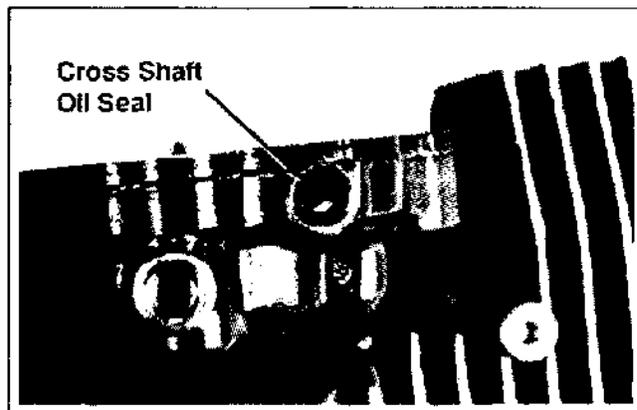

Figure 9-47. Removing Cross Shaft Oil Seal.
3. Remove the governor cross shaft oil seal from the crankcase. See Figure 9-47.